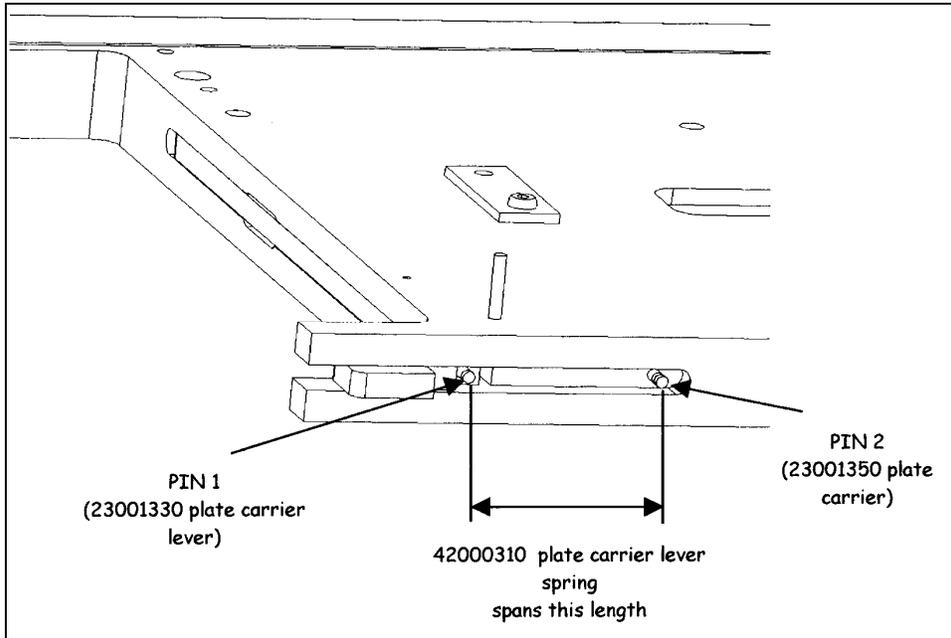

Figure 9-26 Lever/Spring Mechanism
- 1 Remove the spring (Part No. 42000311) from the pin on the plate carrier and plate carrier lever (Figure 9-26).